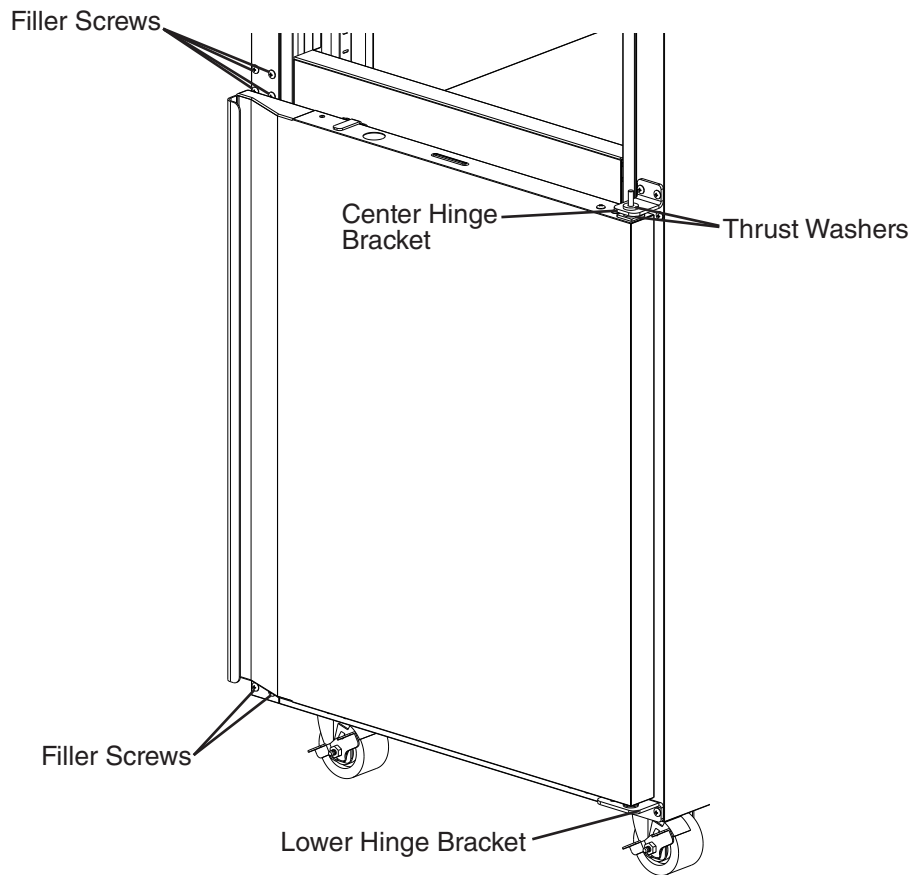

Fig. 24
- 6) While maintaining a hold on the lower door, remove the lower hinge bracket from the cabinet, then lower the door off the center hinge bracket and set aside. See Fig. 24. Retain the center hinge thrust washers for opposite side installation.